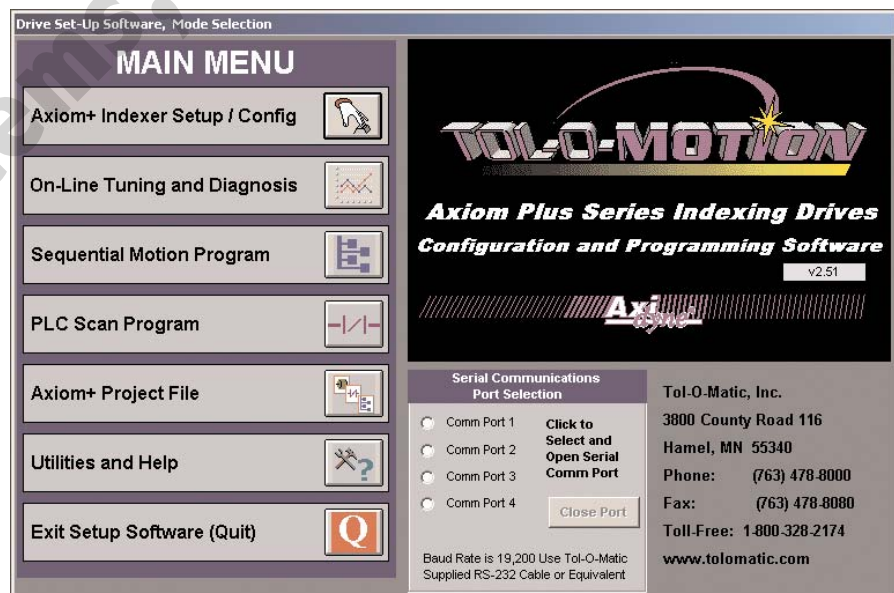

Figure 8.1 - Tol-O-Motion Axiom Plus Setup Software Opening Screen
3. Open the Tol-O-Motion Axiom setup software. The Tol-O-Motion setup software main menu will appear (see Figure 8.1).